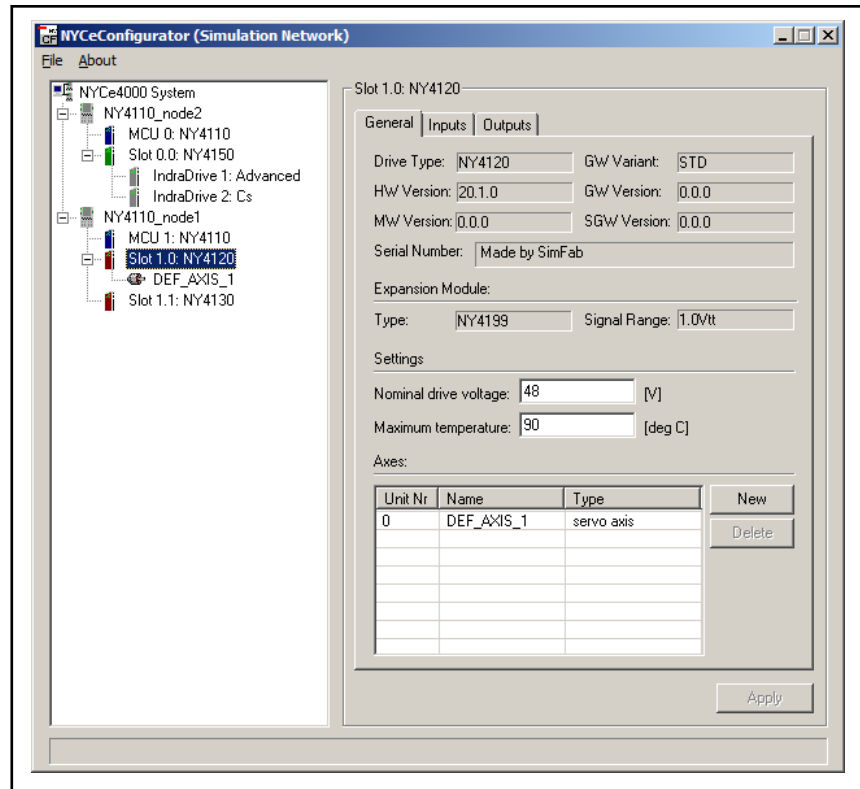

Fig. 2-18: NYCeConfigurator window
1. Click on the "Slot 1.0: NY4120" element in the NYCe 4000 system tree, displayed in the pane at the left side of the NYCeConfigurator, see fig. 2-18 "NYCeConfigurator window" on page 32.